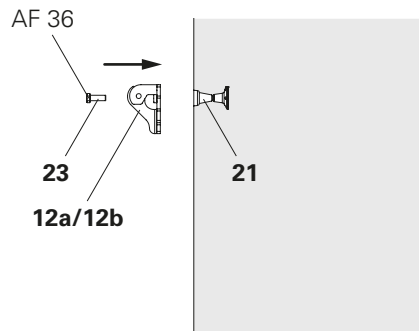

Fig. B1.11
1. Fasten Suspension Head VGK (**12**) to Screw-On Cone-2 M24/DW20 (**21**) with Screw ISO 4014-M24x070-10.9 (**23**). (Fig. B1.11)